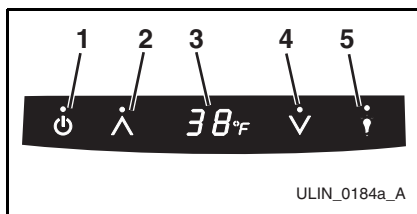

Figure 3
To turn the unit on or off, touch and hold the POWER icon (Figure 3, 1) on the display panel for approximately 10 seconds until the °F symbol flashes and release.
- The display (Figure 3, 3) will show the unit set-point temperature when the unit is on and will show OFF when the unit is off.
The LIGHT icon (Figure 3, 5) on the control panel is used to change the lighting functions.
1. Touch and release the LIGHT icon (Figure 3, 5) to switch from door-operated lighting control to continuous lighting (the °F symbol will flash briefly after the LIGHT icon is pressed).
1. Touch and hold the LIGHT icon (Figure 3, 5) for ten seconds and release (the °F symbol will flash briefly at the end of the five second period).
2. The interior light and control display (Figure 3, 3) will go dark.